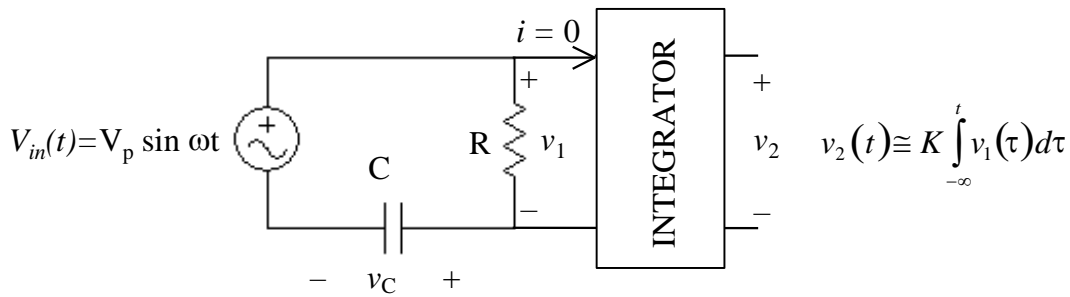

Figure 5.3 Integrator circuit.
- B.** Consider the circuit of Fig. 5.3.